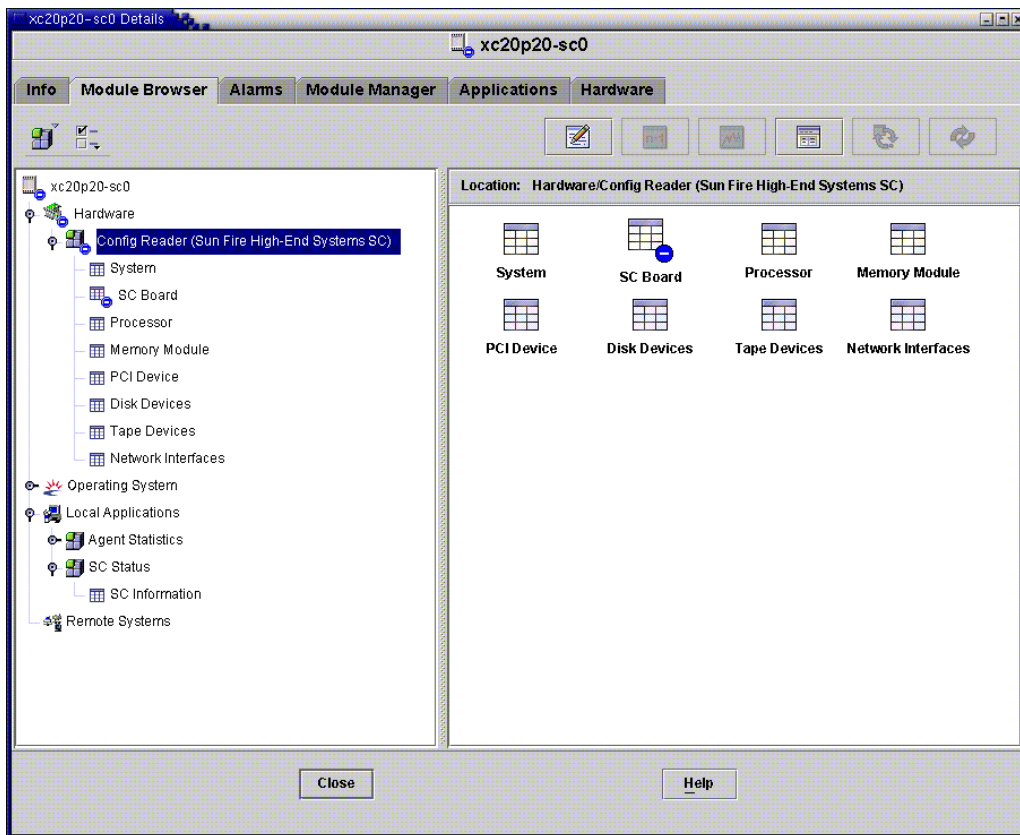

FIGURE 6-3 SC Config Reader Module
FIGURE 6-3 shows the icon for the module—Config Reader (Sun Fire High-End Systems SC)—as it is displayed in the host (SC) Details window under the Module Browser tab and Hardware icon.